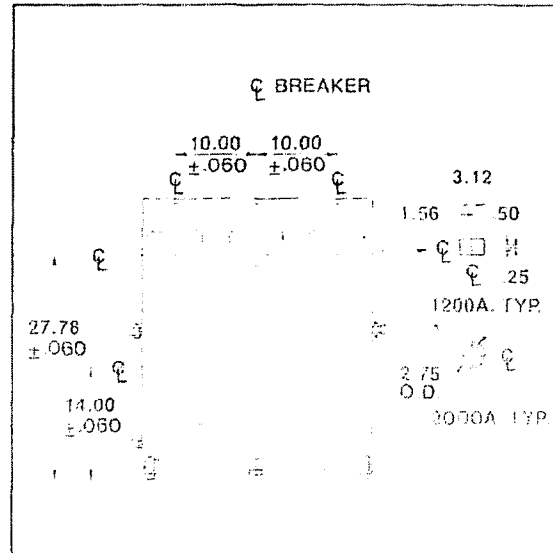

Figure 22
4. Install the four mounting screws. Insure that the pole unit is in proper alignment and has proper spacing with the remaining two pole units before tightening the mounting screws. It may be necessary to adjust the finger runback to obtain proper alignment. See Figure 22.
15. Insure that the pole unit is in proper alignment and has proper spacing with the remaining two pole units. It may be necessary to adjust the contact finger runback to obtain proper alignment. See Figure 22. Tighten the mounting screws.